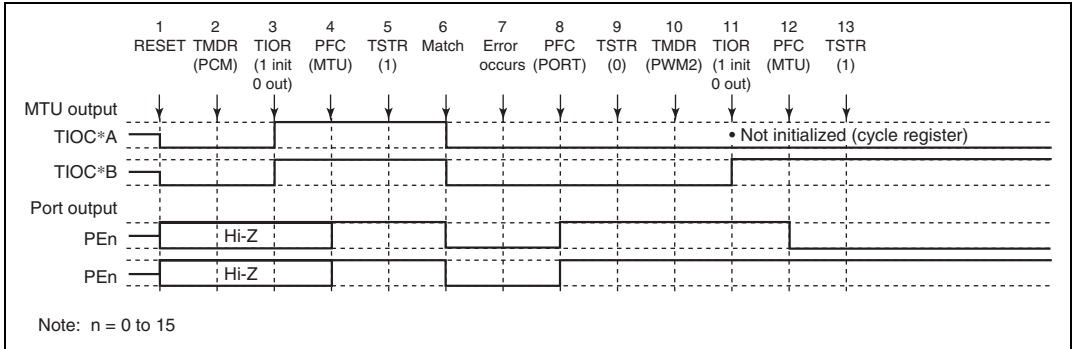

Figure 10.74 Error Occurrence in Phase Counting Mode, Recovery in PWM Mode 2
(15) Operation when Error Occurs during Phase Counting Mode Operation, and Operation is Restarted in PWM Mode 2: Figure 10.74 shows an explanatory diagram of the case where an error occurs in phase counting mode and operation is restarted in PWM mode 2 after re-setting.